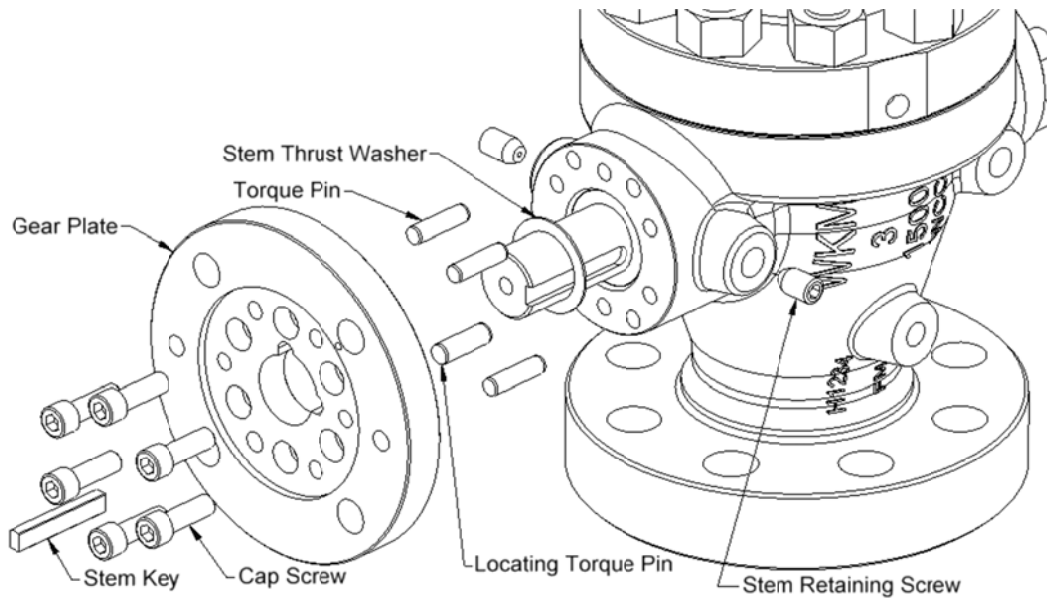

Figure 15 – Gear Adapter Plate Assembly
18. If a bare stem valve, use the following procedure to install the adapter plate (as detailed in Fig. 15):